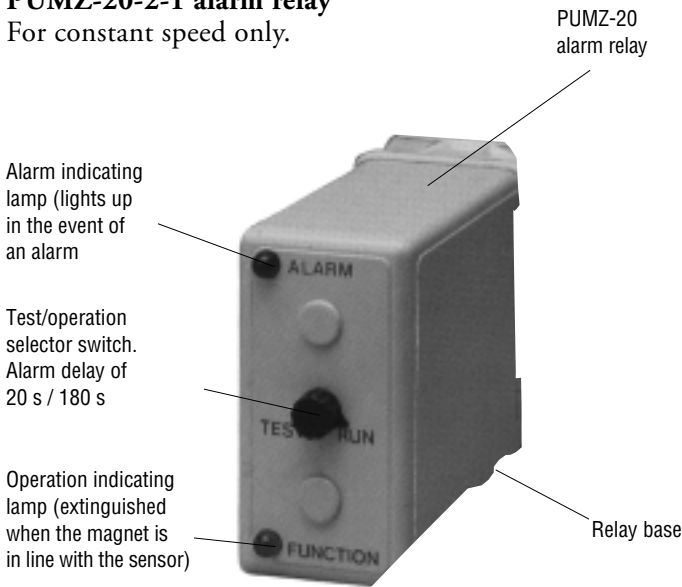
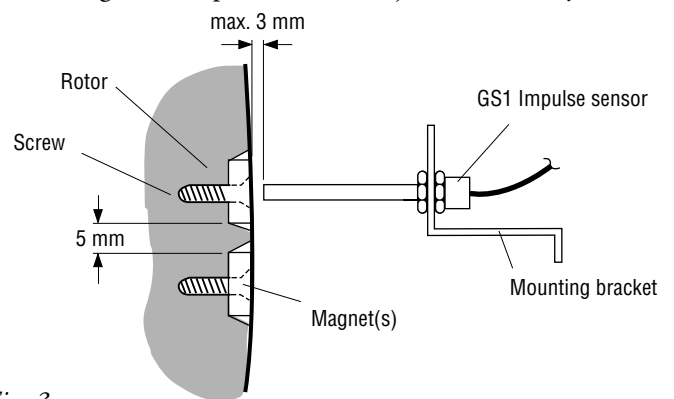
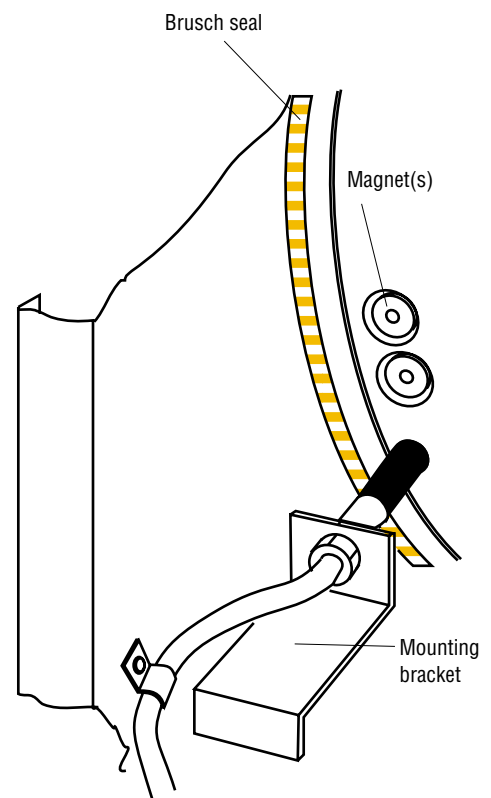

Fig. 1
Fig. 3
Fig. 4
If the heat exchanger has been ordered with a speed detector, the parts shown in Fig.3 will be fitted at the factory. The alarm relay shown in Fig. 1 is delivered separately.
- Fit the magnet(s) included in the delivery to the rim plates of the rotor. On the larger sizes, locate the 2 magnets 5 mm apart, in line along the periphery of the rotor, see Fig. 3. Fitting sequence: Remove the lower inspection cover, turn the rotor which has the largest radial run-out. Secure the magnet in position adjacent to the right-hand clamping strap. Ensure that magnetic pulse sensor GS2 is well clear of the clamping strap joints.
- Fit the impulse sensor to the mounting bracket and locate the bracket to the casing partition (see Fig. 4). Locate the mounting bracket so that the distance between the sensor and the magnet will not exceed 3 mm (see Fig. 3). Secure the mounting bracket in the cross piece by means of two self-threading screws.